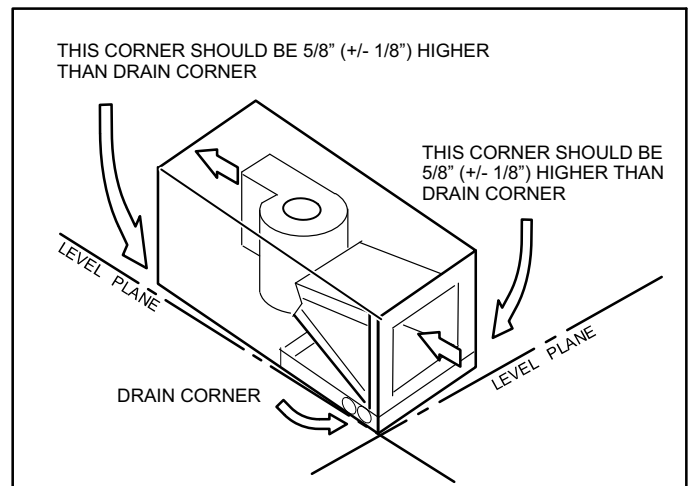

Figure 30. Sloping the Drain
- Set unit so that it is sloped toward the drain pan end of the unit (see figure 30).
Make sure the unit is sloped (similar to the slope shown in figure 30) (horizontal or upflow) so that the drain pan will empty completely without water standing in the pan.